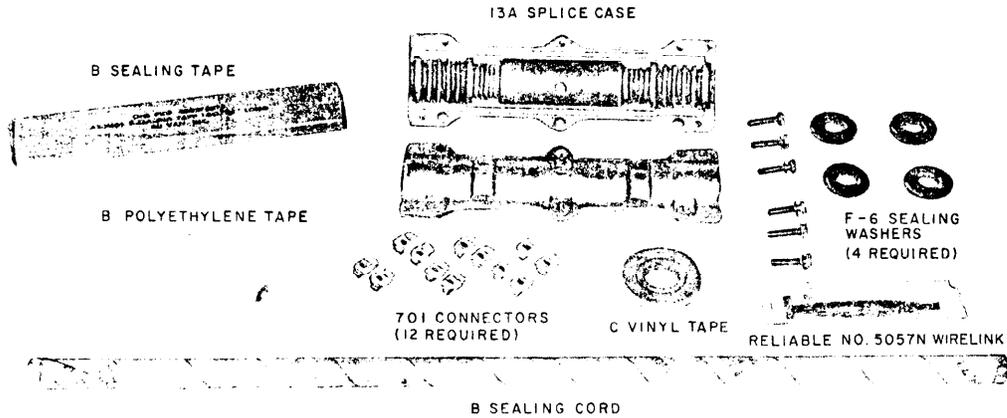

Fig. 20 - Material Required for Splicing Multiple Pair ASW
7.01 Multiple pair ASW may be spliced before placing, using the material listed in Table B and shown in Fig. 20.